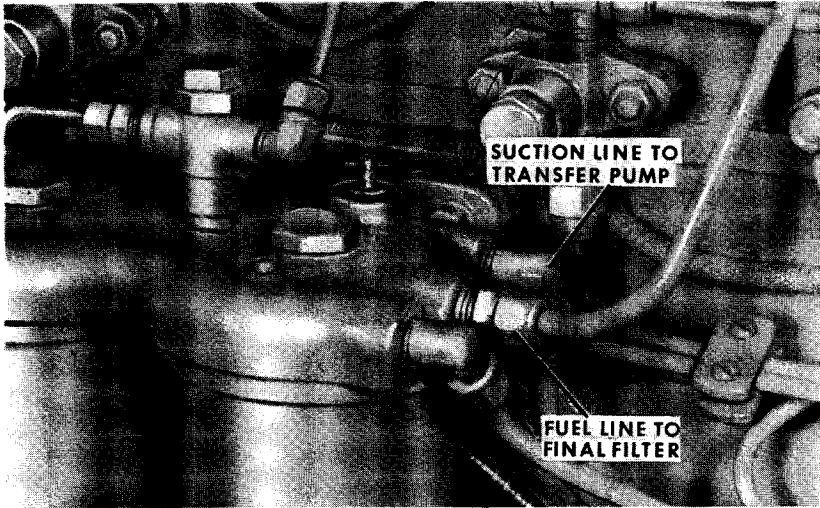

Figure 66
2. Disconnect the suction line to the transfer pump, Figure 66. Check the fuel flow. If fuel does not flow freely, the first stage filter is plugged. Reconnect fuel line.
3. Open by-pass valve or internal pressure relief valve and disconnect fuel line to final filter, Figure 66. If fuel does not flow freely, the second stage filter is plugged. Reconnect fuel line.